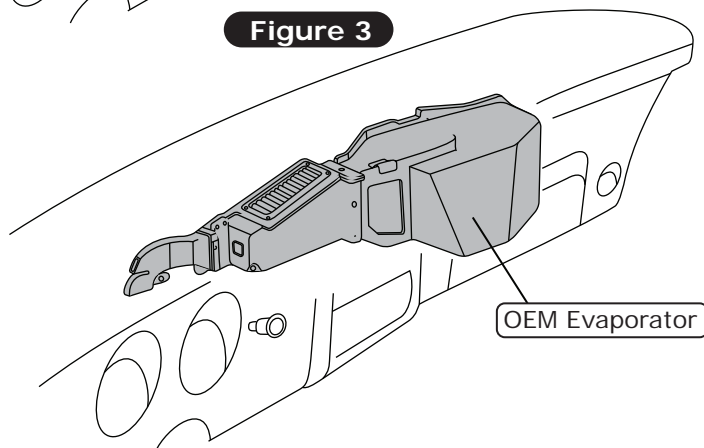

Figure 4
21. Remove the OEM evaporator (discard) (See Figure 4, below).